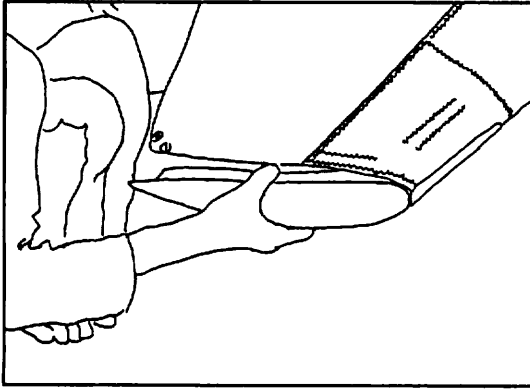

Figure 28
- c) Slide the tip fairing into the end of the sail and press the mating velcro surfaces securely together. (Figure 28, 29)